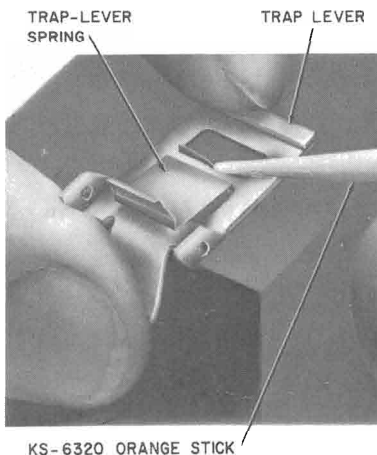

Fig. 29—Bending Trap-Lever Spring¶
- (1) Remove old spring.
- (2) Place trap-lever and new P-10E702 spring on a flat surface (Fig. 29).
- (3) Use a KS-6320 orange stick to bend trap-lever spring around center bar of trap-lever (Fig. 29 and 30).